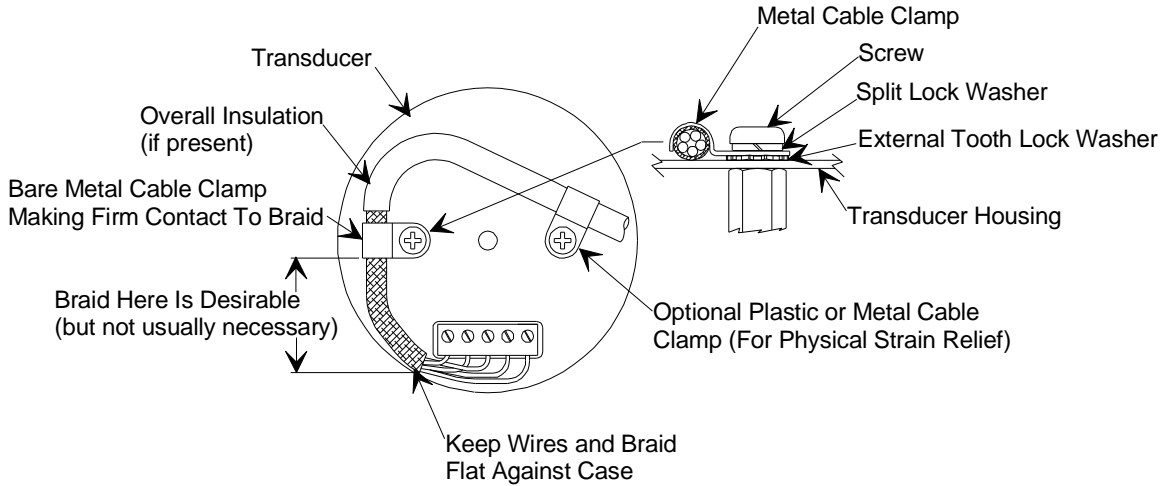

Figure 3: Preferred Method for Shielding Cables with Flying Leads
4. For shielded cables with flying leads at one or both ends; it is important at each such end, to ground the shield *before* the wires exit. Make this ground with absolute minimum length. Refer to Figures 3 and 4, page 25. (A ¼ inch piece of #22 wire may be intolerably long since it has about 5 nH of inductance, worth 31 ohms at 1000 MHz). After picking up the braid's ground, try to keep wires and braid flat against the case. With very few exceptions, grounded metal covers are not required over terminal strips. If one is required, it will be stated in the Declaration of Conformity or in this instruction manual.